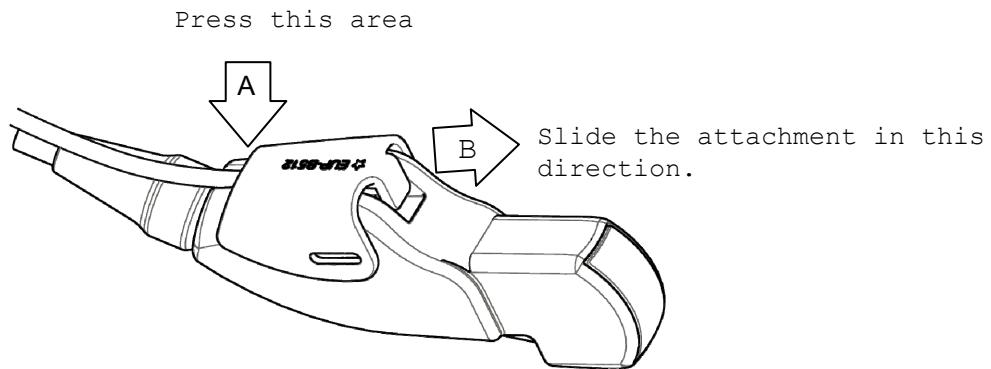

Fig.5 How to release the attachment from the probe
- a) Press the area of the Magnetic sensor attachment shown with the arrow toward the direction A, and then slide out the attachment toward the direction B as shown in Fig.5 and release it from the probe.